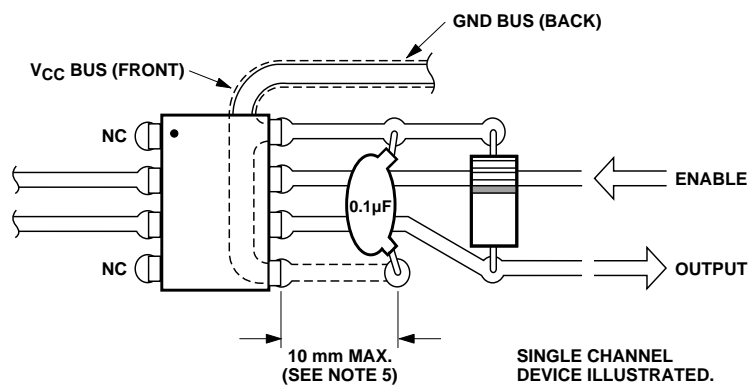

Figure 17. Recommended Printed Circuit Board Layout.
- Bypassing of the power supply line is required, with a $0.1\text{ }\mu\text{F}$ ceramic disc capacitor adjacent to each optocoupler as illustrated in Figure 17. Total lead length between both ends of the capacitor and the isolator pins should not exceed 20 mm.